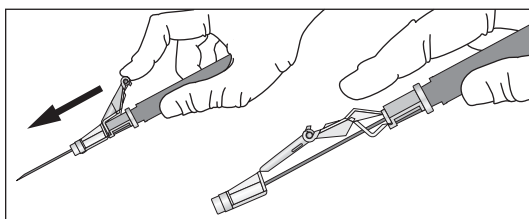

Figure 22
- Immediately activate needle protection device upon withdrawal from patient by pushing lever arm completely forward until needle tip is fully covered (see Figure 22).